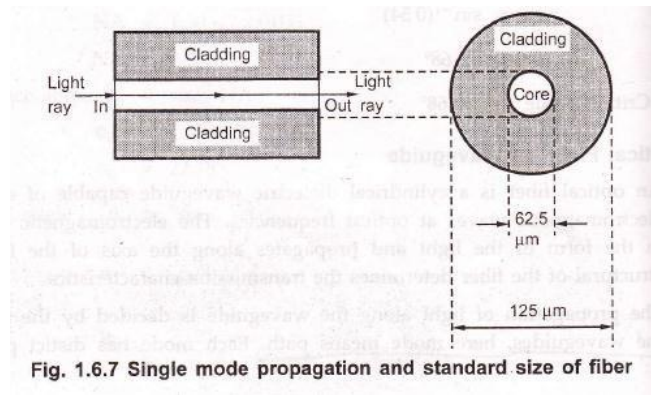

Fig. 1.6.7 Single mode propagation and standard size of fiber
- To understand the general nature of light wave propagation in optical fiber. We first consider the construction of optical fiber. The innermost is the glass core of very thin diameter with a slight lower refractive index  $n_2$ . The light wave can propagate along such a optical fiber. A single mode propagation is illustrated in Fig. 1.6.7 along with standard size of fiber.